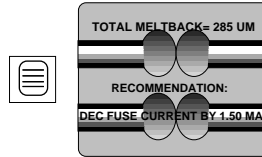

Figure 65
- e) Press the Program key and note the meltback distance and the recommended current adjustment. The current shown in the program can be modified using the edit feature (Figure 65).